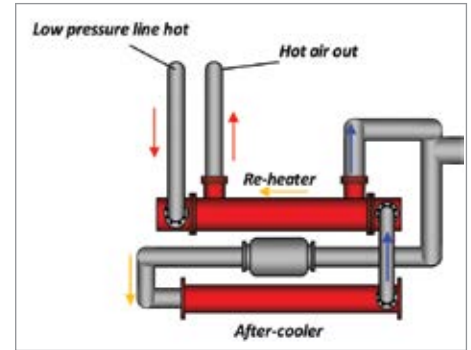

Figure 3. Reheater design
- **Plants used water-cooled aftercoolers without further drying.** In an effort to keep the remaining water vapor in vapor form, some plants employed a “reheater” (Figure 3). This used a second exchanger after the water-cooled aftercooler which used the incoming hot wet air to reheat the outgoing aftercooled air. The results of this action were mixed. The same amount of water vapor was still in the low-pressure compressed air. Where it fell out as liquid condensate totally depended on operating conditions. These reheater units were and are available as a commercial product from several heat exchanger manufacturers.